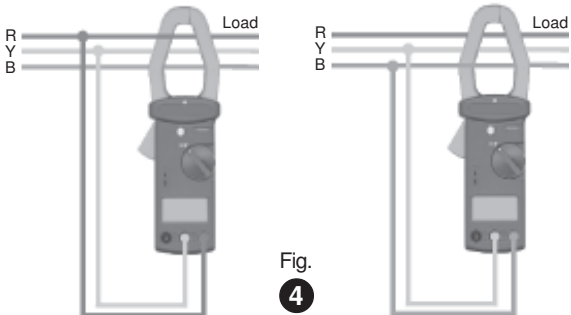

Fig. 4
9. For measurement in other systems please refer figures 4, 5 and 6.